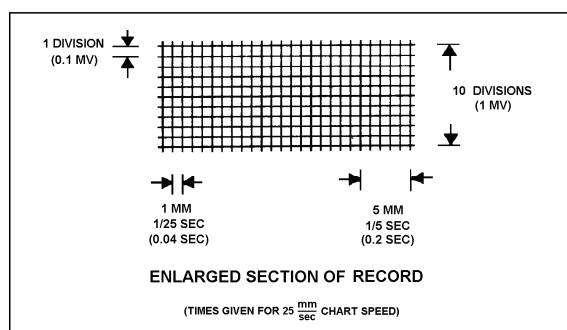

Figure 3-6. EKG graph paper
- (2) Notify the medical officer of any other irregularities of the heart's rhythm after you have completed the tracing, but before you remove the electrodes from the patient. (A second tracing may be ordered.)
- a. Time is measured on the horizontal axis of the EKG graph paper. Refer to Figure 3-6.